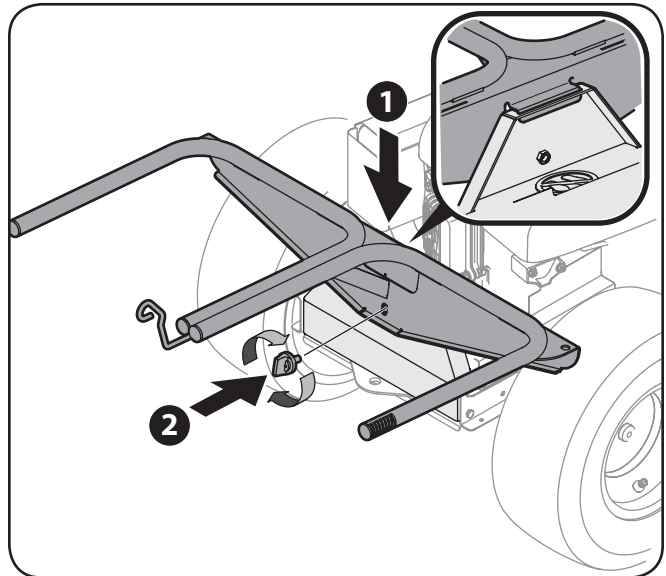

Figure 4-3
3. Install the grass-bag mounting assembly onto the bagger mounting bracket by lowering it down (1) and fitting the assembly into the slot provided in the mounting bracket. See the Inset in Fig. 4-3.
4. Secure the grass-bag mounting assembly to the bagger mounting bracket using the attachment knob (720-04061) found in the hardware pack (689-00210). See (2) in Fig. 4-3.